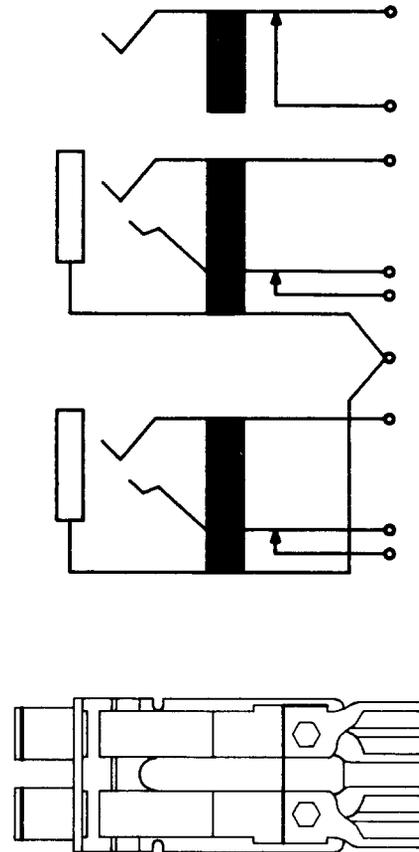

Fig. 10—638AM Jack
2.10 638AM: The 638AM (Fig. 10) is a single-mounted twin miniature jack and is used in equipment where space restrictions are a problem. This jack is designed to mate with the 310- and similar-type plugs and is used in the D3 channel bank units.